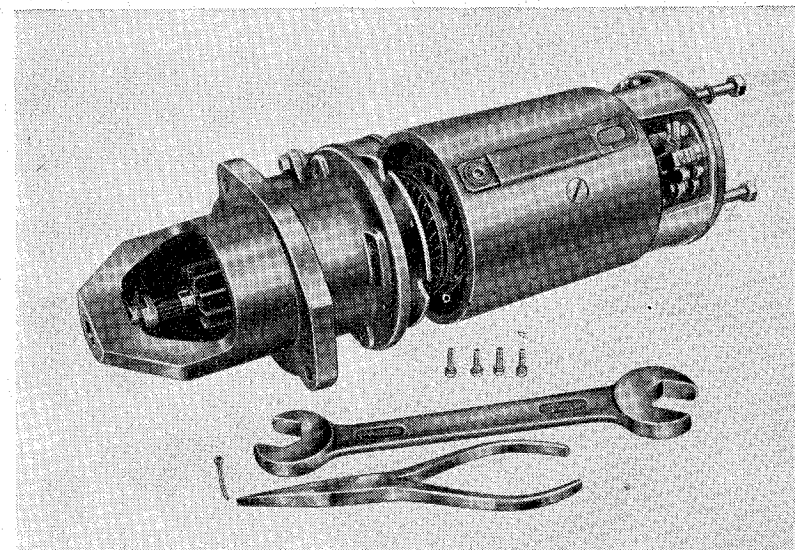

Fig. 88.
10. Having screwed out the four bolts securing the yoke to the commutator end plate remove the end plate from the shaft (see Fig. 88).
13. Having screwed out the four bolts from the partition ease the latter (see Figs. 88, 89).